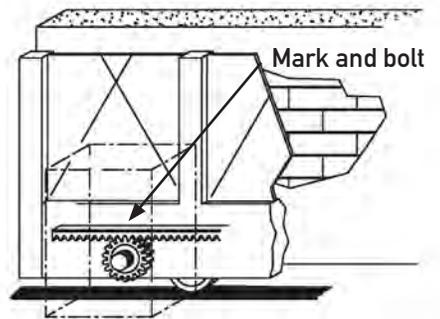

FIG. 5
4. Put the rack on the pinion and slide the gate so that the other end of the rack section is on the pinion, mark the center of the slot on the gate (Fig. 5).